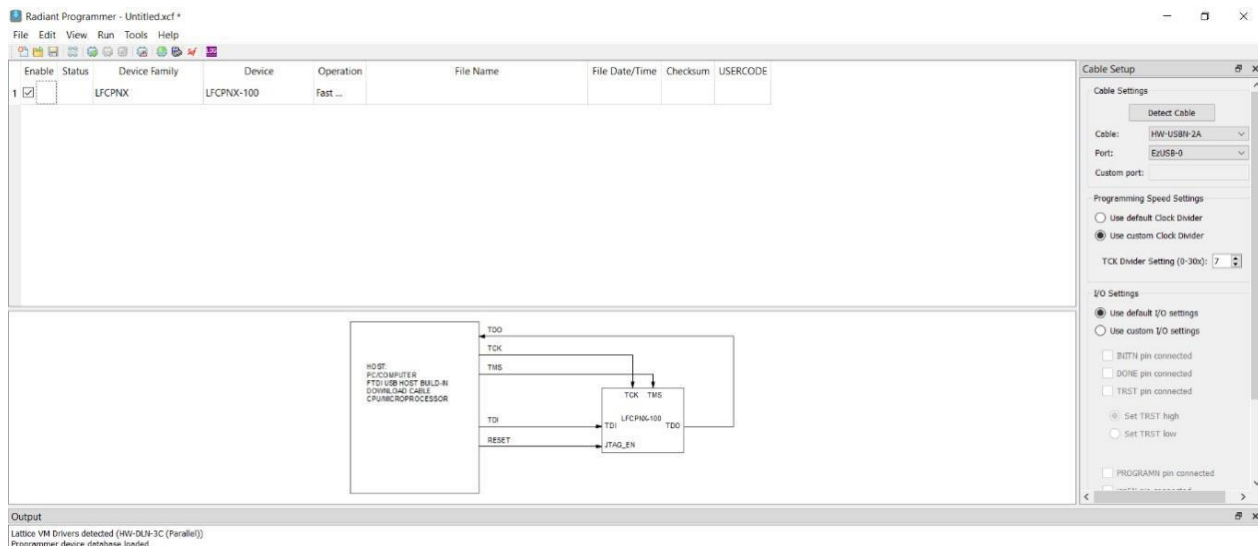

Figure B.6. Radiant Programmer - Device Selection (Main System)
4. In the Radiant Programmer main interface, select **LFCPNX** for **Device Family** and **LFCPNX-100** for **Device** or detect automatically as shown in Figure B.6.